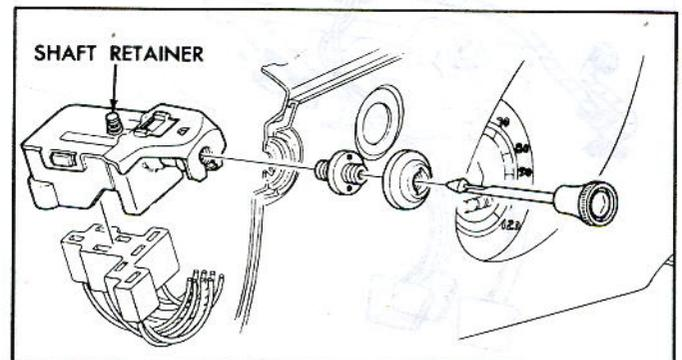

Fig. 11—Lighting Switch Installation
LIGHTING SWITCH REPLACEMENT (Fig. 11)
3. Reach under the instrument console and depress the switch shaft retainer (fig. 11). With retainer depressed pull knob and shaft assembly from the switch.